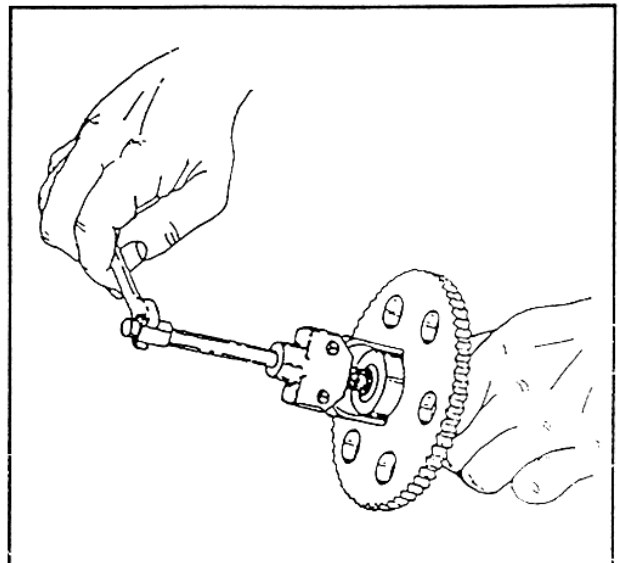

FIGURE 10
5.04 Should ball bearing remain on drive shaft after removal of drive shaft assembly, use a puller as shown in figure 10 to remove ball bearing.